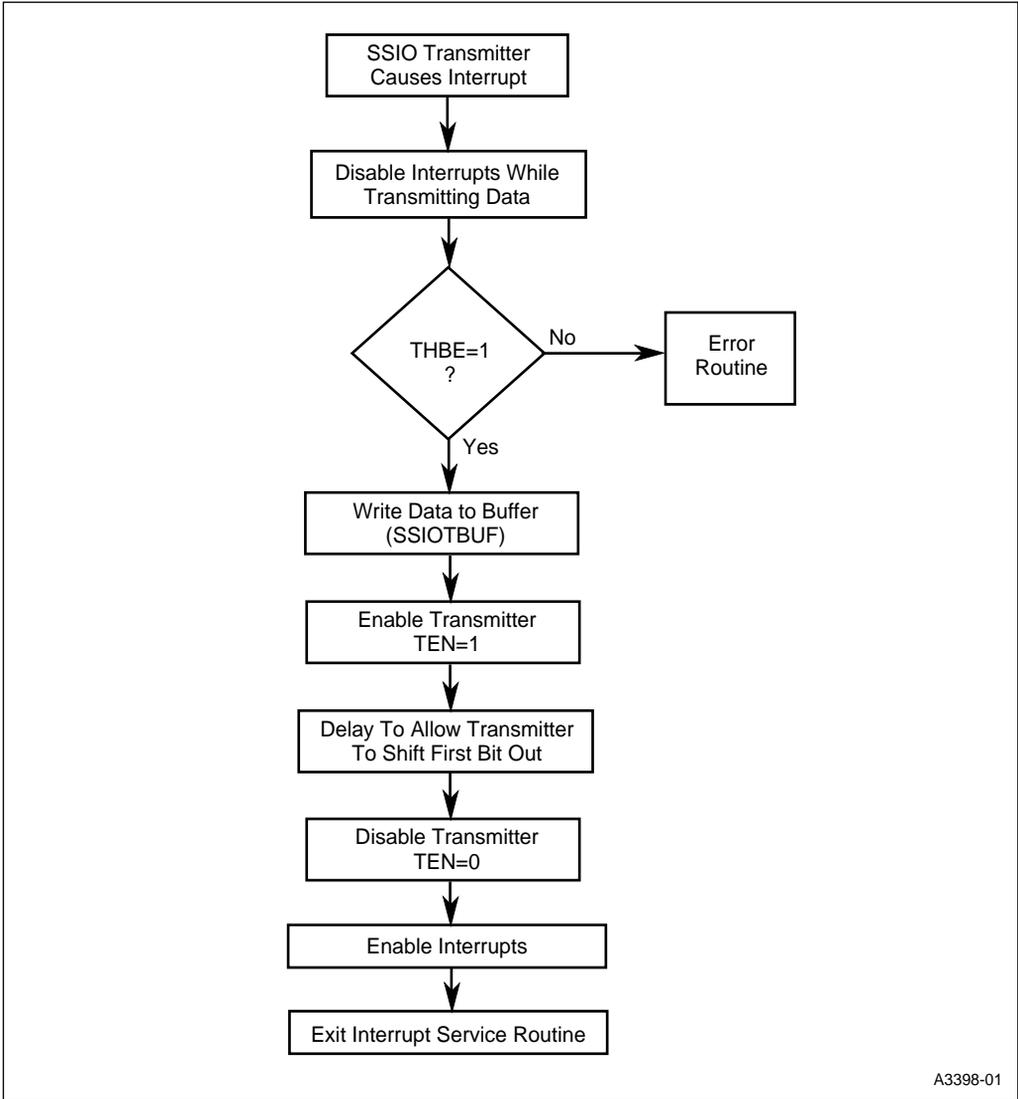

Figure 13-9. Interrupt Service Routine for Transmitting Data Using Interrupts
- Figure 13-9 shows a basic flowchart for the Interrupt Service Routine necessary when using interrupts to transmit data through the SSIO. If interrupts are used, follow the below sequence for initialization: